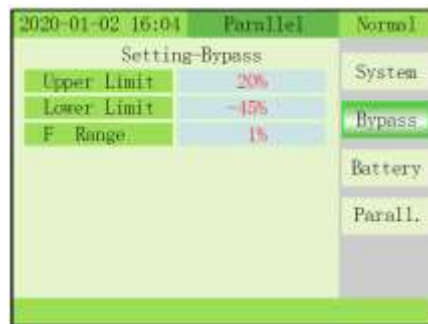

Fig. 4-13 Setting/Maintenance - Bypass menu
11) MAINTENANCE – BYPASS: Press OFF key to enter item and confirm value, press ↻ change value (Fig. 4-13).